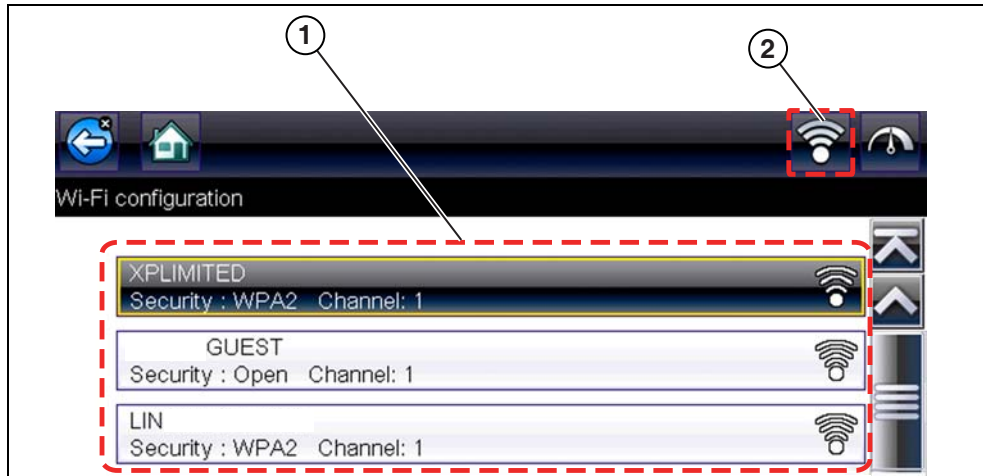

Figure 13-2 Wi-Fi Configuration Screen
3. The Wi-Fi icon will change to indicate Wi-Fi is on (Figure 13-2). The screen will change to display available supported network connections.
4. Select your network. Use the scroll feature to show all active connections (Figure 13-2).